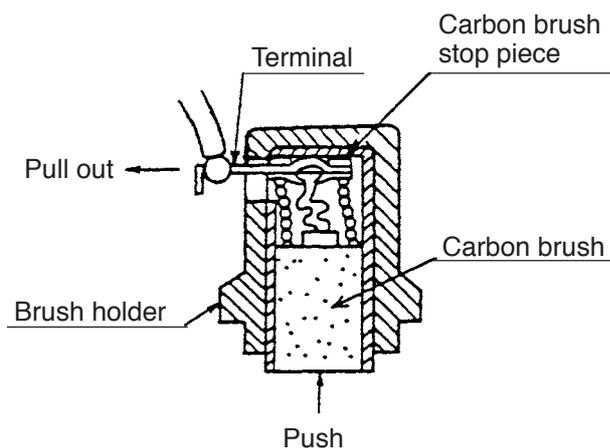

Fig. 4
With a small flat-blade screwdriver, slightly lift the Brush Holders **[38] <38> (38)**. Then, while pushing the Carbon Brushes (1 Pair) **[37] <37> (37)** to the bottom of the brush holders, gently pull out and disconnect the internal wire terminals. (See Figs. 4 and 5.)